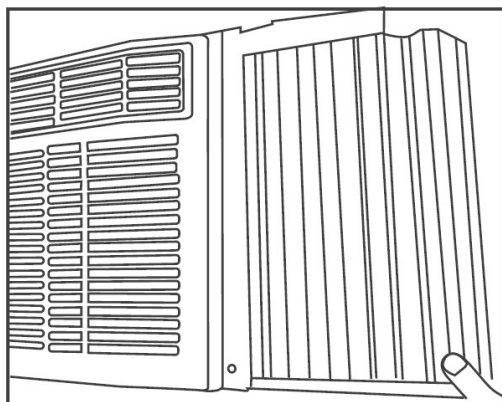

Fig.4
- Once the accordion panels are slid into place adjust the top and bottom rails of the accordion panels into the top and bottom rails of the air conditioner (See Fig.4).